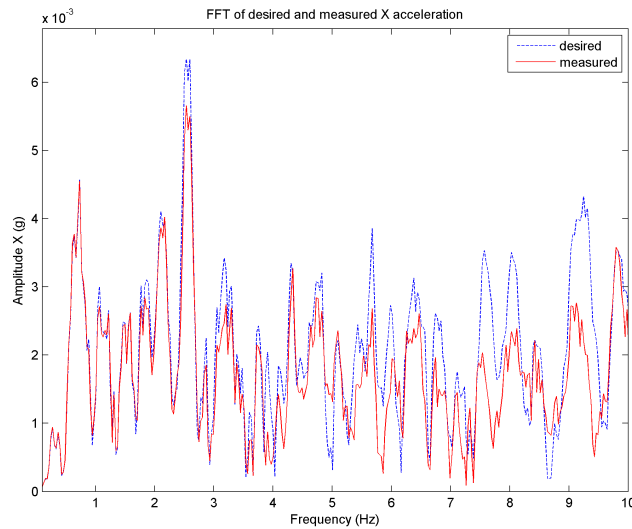

Figure 2.11: FFT of desired and measured acceleration along x-axis after running Northridge earthquake
3. To produce the acceleration power spectrum, $A(\omega)$, similar to Figure 2.11, run `fft_eval_acc.m`. The blue and red traces are the desired and measured accelerations, respectively.